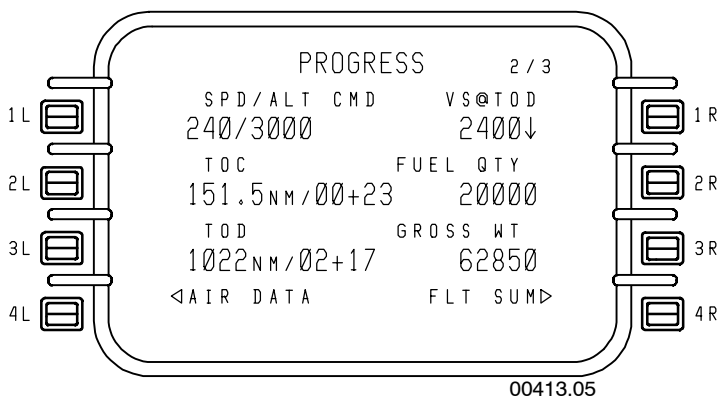

Figure 8-2
- **PROGRESS 2/3** – Figure 8-2 shows the current VNAV commands being transmitted to the FGC.